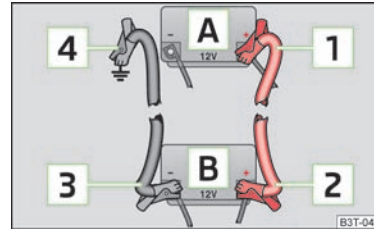

Fig. 181
- Attach one end [1] » Fig. 181 to the positive terminal of the discharged battery [A].